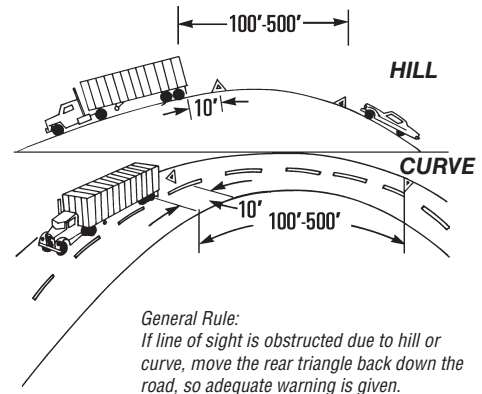

Figure 2-6 Obstructed View
- About 100 feet behind and ahead of the vehicle, on the shoulder or in the lane you are in. (Figure 2-6)
- Back beyond any hill, curve, or other obstruction that prevents other drivers from seeing the vehicle within 500 feet. (Figure 2-6)